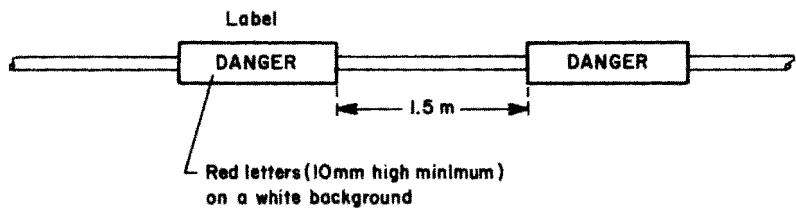

Fig. 10.14
- 14 If it is not clear that a cable is part of a circuit operating above low voltage, it should be labelled every 1.5 m as shown in Fig. 10.14.